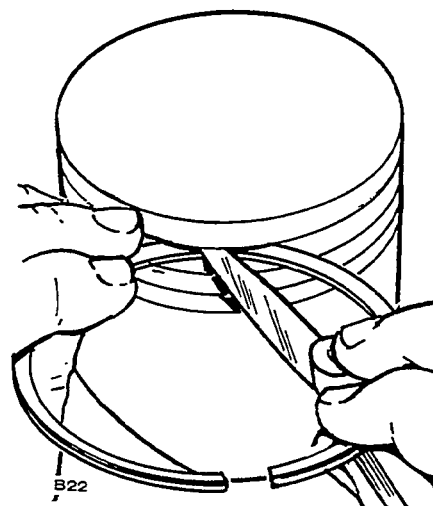

FIGURE 66. CHECKING RING SIDE CLEARANCE
1. Inspect the pistons for fractures at the ring lands, skirts, and pin bosses. Check for wear at the ring lands, using a new ring and feeler gauge as shown in Figure 66. Replace the piston when the side clearance of the top compression ring reaches 0.008 inch (0.20 mm).